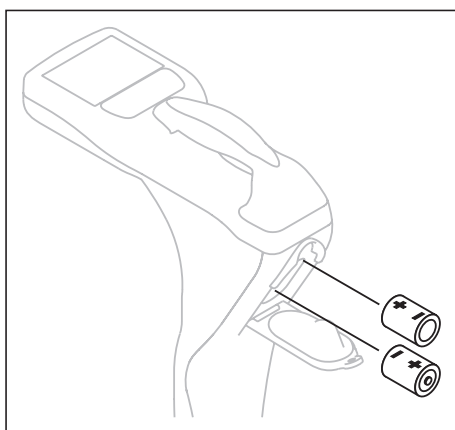

Fig. 13: Replacing the receiver batteries – polarity of the batteries
3. Insert the new batteries. Ensure that the polarity is correct (fig. 13).